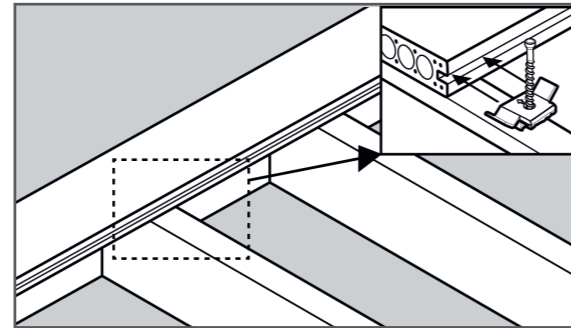

FIG. 3
- 1 Now you've fitted the first row, insert **deX T-Clips** into the groove on the leading edge of the **board**. (fig. 3)